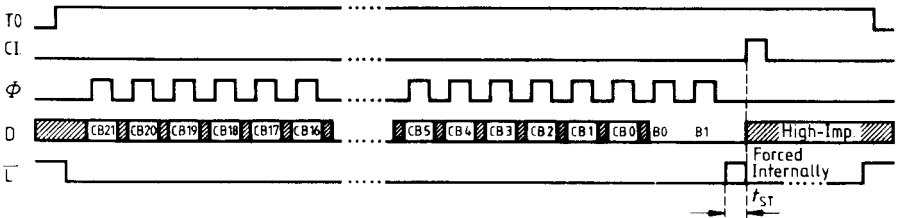
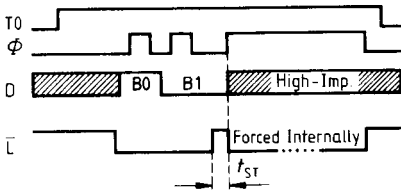

Figure 2b Erasure of Entire NVM
Figure 2c Writing into Entire NVM
b) Erasure of entire NVM (figure 2b)**Writing into entire NVM (figure 2c)**